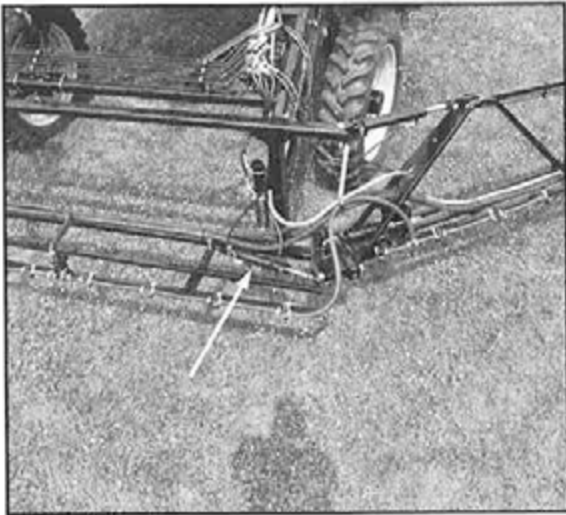

FIG 5.24
HORIZONTAL BOOM FOLD - To fold either boom horizontally in toward the machine or out away from the machine, depress the "IN" or "OUT" of either or both "BOOM FOLD" switches (fig. 5.25, items 1 & 2). While depressed, these switches activate cylinders connecting either boom breakaway mount to the transom (fig. 5.24).